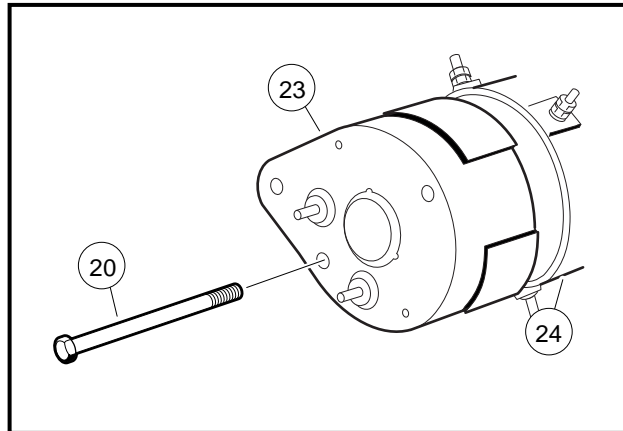

Figure 12-3 Commutator End Cover
1. Remove the two bolts (20) and pull commutator end cover (23) free of starter/generator housing (24) (Figure 12-3, Page 12-4). See following NOTE.
3. Install the commutator end cover (23) onto the armature shaft. Align the locating pin with the pin hole in the cover. Install two M6 x 180 mm bolts (20) and tighten to 100 in-lb (11.3 N-m) (**Figure 12-3, Page 12-4**).
2. Remove the two bolts (20), and pull commutator end cover (23) free of the starter/generator housing (24) (**Figure 12-3, Page 12-4**).
9. Install the commutator end cover (23) onto the armature shaft. Align the locating pin with the pin hole in the cover. Install the two M6 x 180 mm bolts (20) and tighten to 100 in-lb (11.3 N·m) **(Figure 12-3, Page 12-4)**.